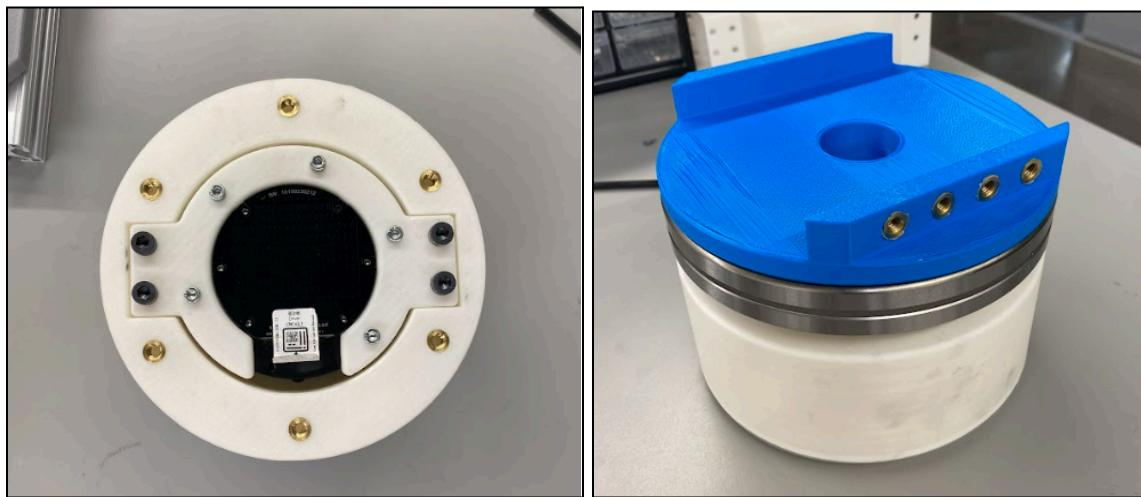

Figure 7: Assembling J1 Motor Holder and the J1 Motor Cover
- Using 4 M6x18mm screws , fasten the J1 Motor Holder to the J1 Motor Cover by screwing from the bottom of the J1 Motor Holder into the heat set inserts in the J1 Motor Cover. See Figure 7.